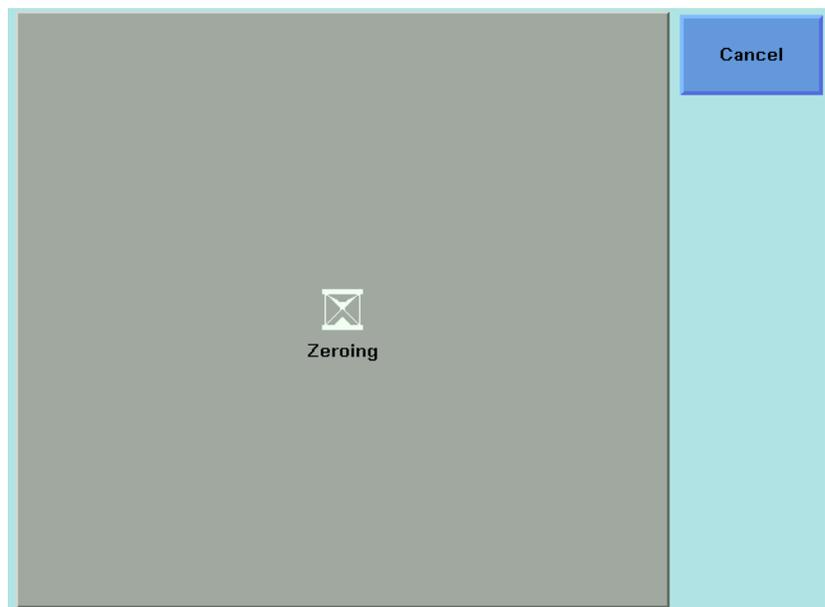

Figure 45 Zeroing Screen
- 3 Move to the <Zero> option to zero the current power measurement channel or the <Zero All> option to zero all power measurement channels. You will see the screen shown in Figure 45 , this appears for around 30 seconds while zeroing is performed.